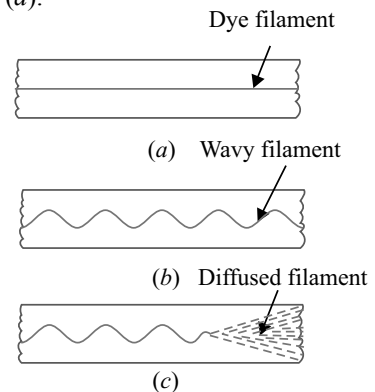

Fig. 10.2. Appearance of dye filament in (a) laminar flow, (b) transition, and (c) turbulent flow.
1. When the *velocity* of flow was *low*, the dye remained in the form of a *straight and stable filament* passing through the glass tube so steadily that it scarcely seemed to be in motion. This was a case of **laminar flow** as shown in Fig. 10.2 (a).
2. With the increase of velocity a critical state was reached at which the dye filament showed irregularities and began to waver (see Fig. 10.2 b). This shows that the flow is no longer a laminar one. This was a **transitional state**.
3. With further increase in velocity of flow the fluctuations in the filament of dye became more intense and ultimately the dye diffused over the entire cross-section of the tube, due to the intermingling of the particles of the flowing fluid. This was the case of a **turbulent flow** as shown in Fig. 10.2 (c).